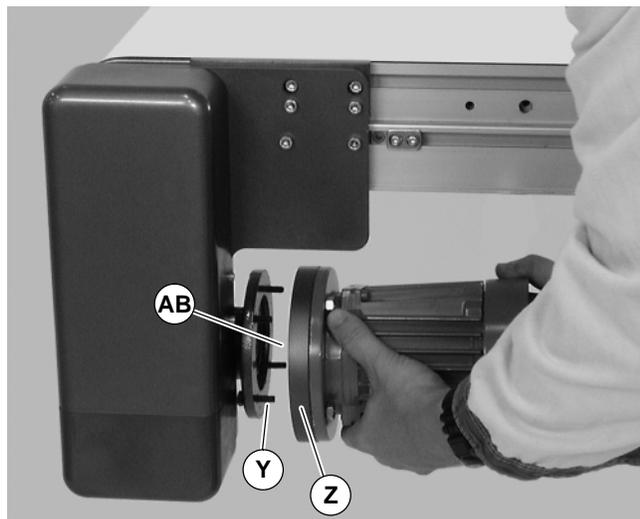

Figure 23
5. With key (AB of Figure 23) in keyway, slide motor (Z) and gear reducer together. Install screws (Y) and tighten.